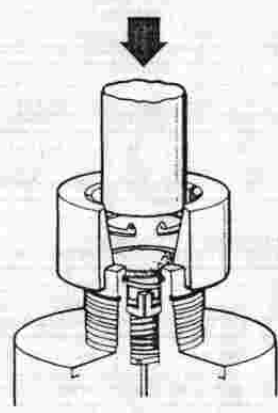

FIGURE 8
- 15. Place the special high-pressure block guide (U.S.D. P/N 1110-00), recessed end downward, over the tip of the inlet boss of the first-stage body. Next, drop a new sintered filter (Item 20) with rough side facing upward into the spring block guide. Place a new retaining ring (Item 21), flat side upward, on top of the sintered filter. (See Figure 8).